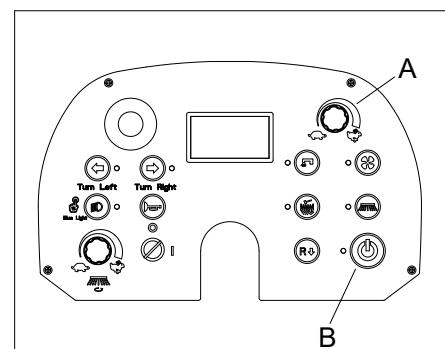

Figure 12
When operating on wet floors, it is essential to turn off the vacuum system by pressing the vacuum button (A, Figure 12) to prevent the dust filter from being damaged.
5. For machine proper operation, the dust filter must be as clean as possible. To clean it while sweeping, turn on the filter shaker by pressing the filter shaker button (B, Figure 12). During this operation the vacuum motor is automatically shut off. After cleaning the filter, the vacuum system resumes working automatically; then start sweeping again. While working, "filter auto cleaning" mode can be activated by pressing filter shaker button (B, Figure 12) for 1 second, which can repeat the filter cleaning procedure every 10 minutes on average (depending on the dustiness of the area to be cleaned, interval can be set from 1 to 60 minutes, parameter setting refer to the Service Manual).